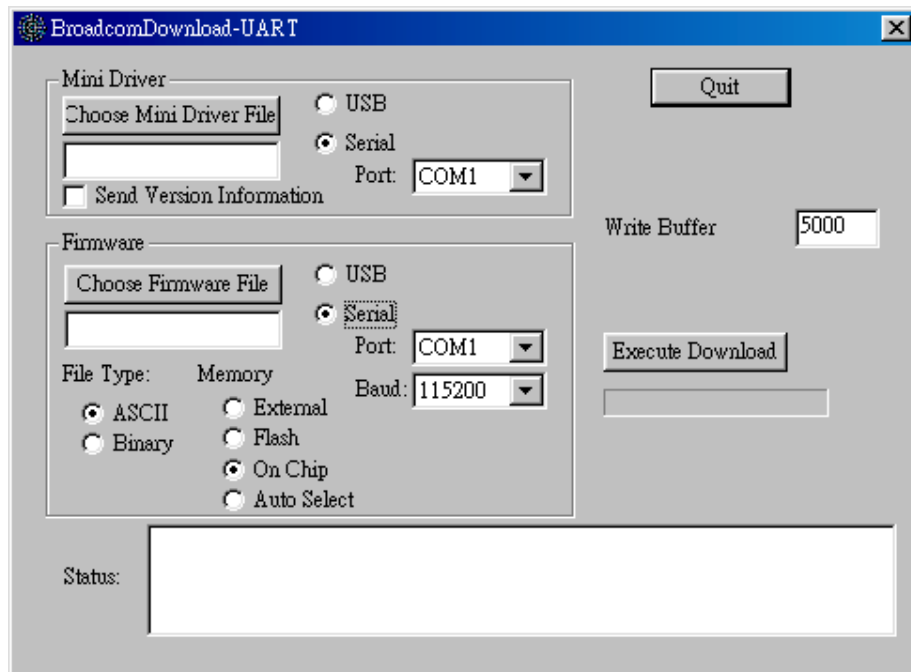

Figure 3: Downloader Configuration for UART Interface
3. Double click on **BroadcomDownload.exe** to start the program; in the “**Mini Driver**” box, select “**Serial**” and select a serial port “**COM1**”. (as Figure 3)